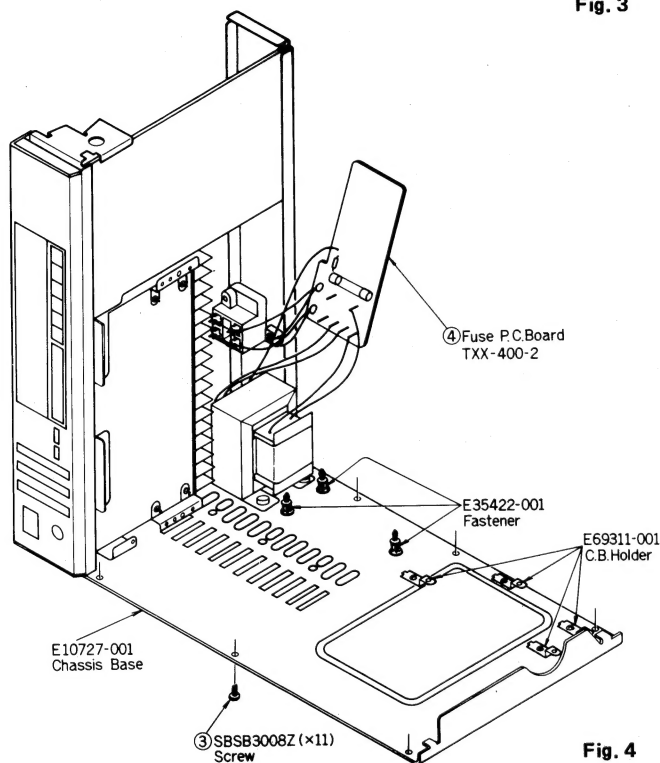

Fig. 4
Step 2: Remove 11 screws ③. (Fig. 4)
Step 3: Remove the Fuse P.C. Board Ass'y ④ from fasteners and replace the Bottom Cover.